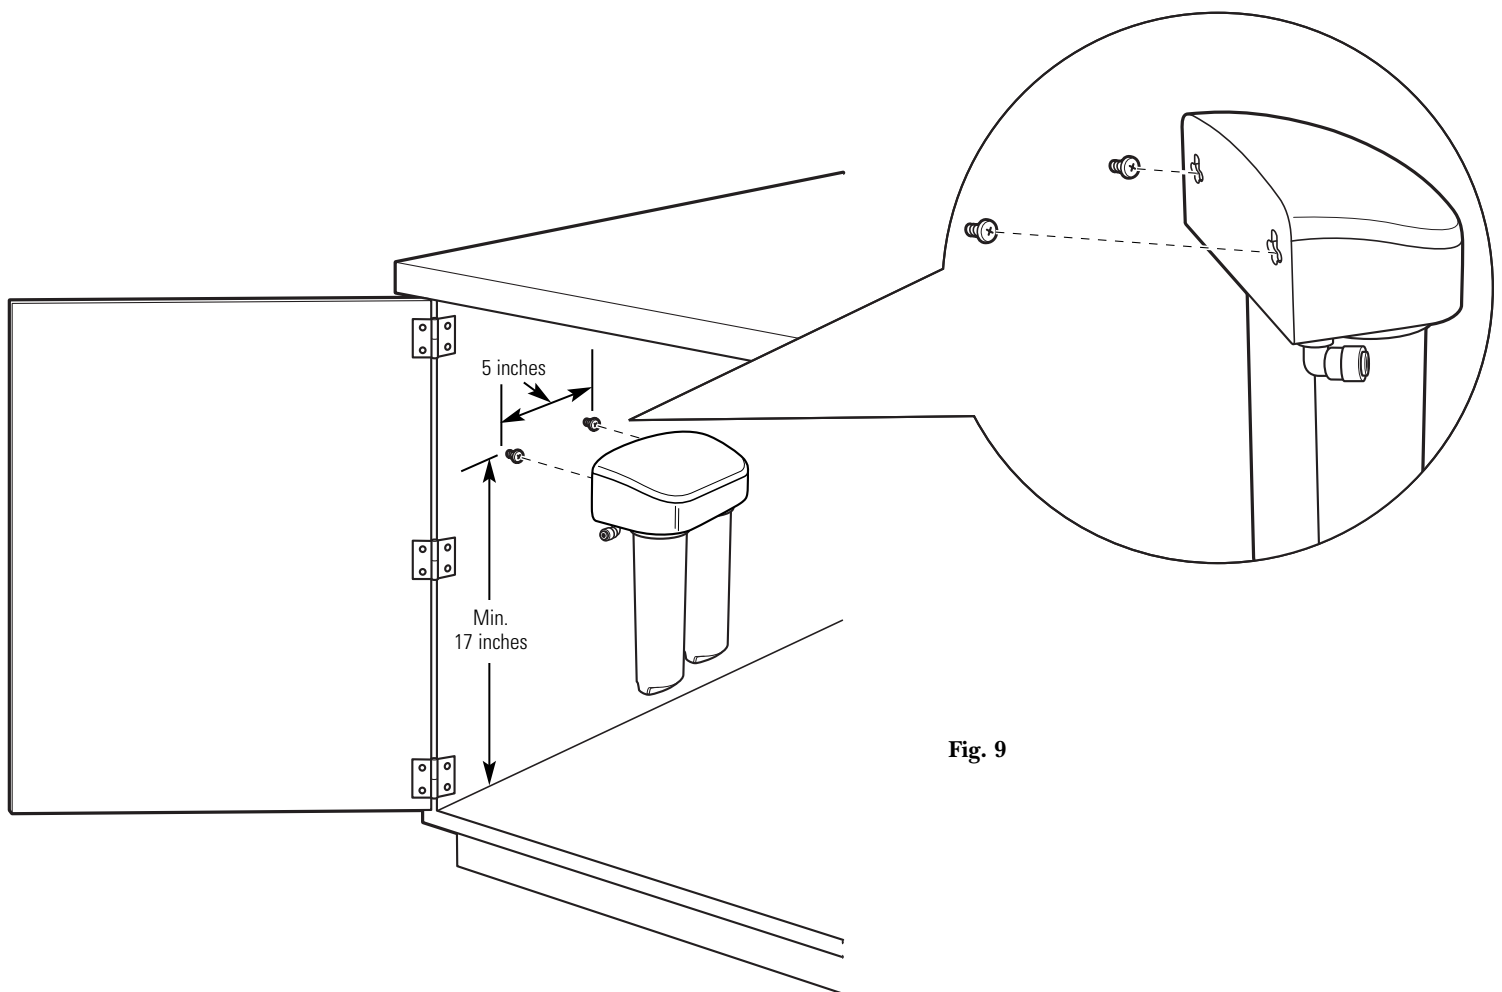

Fig. 9
2. Hang the system on the previously installed screws using the openings on the back of the unit (Fig. 9).